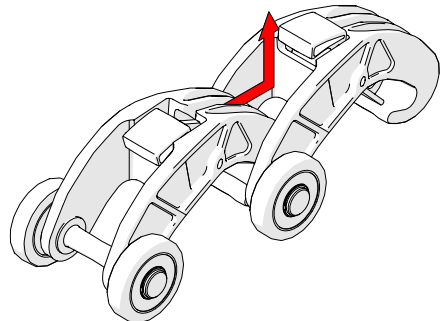

Fig. 28 - Slide QuickLink forward and lift
2. While pressing the button, slide the QuickLink forward and up, clearing the hook of the QuickLink from the 2nd QuickLink's axle (Fig. 28).